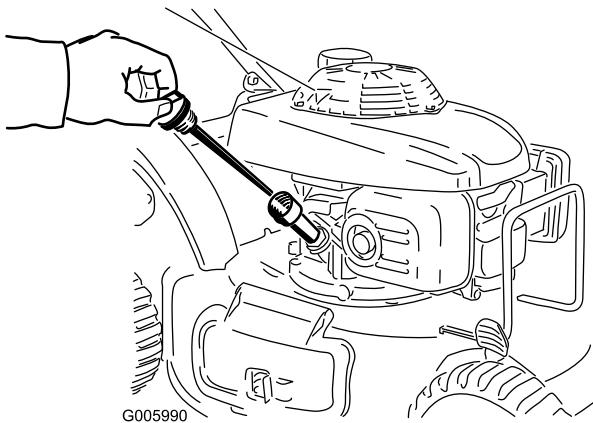

Figure 19
1. Remove the dipstick, wipe it clean, and insert it into the oil filler neck, but do not screw it in (Figure 19).
2. Remove the dipstick and check the oil level (Figure 19).
If there is no oil on the dipstick, slowly pour oil into the oil fill tube, periodically checking the level with the dipstick, until the dipstick indicates that the engine is full as illustrated in Figure 19. **Do not overfill.** (Max. fill: 20 oz. (0.55 l), type: SAE 30 detergent oil with an API service classification of SH, SJ, SL, or higher.)